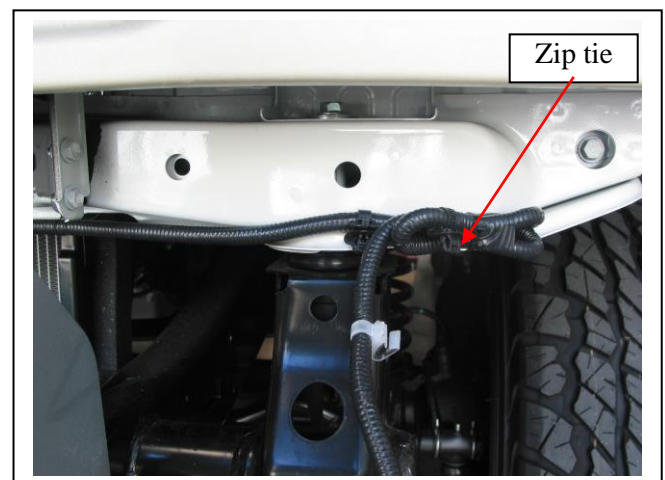

Figure 4 – Passenger side shown
4. Remove fog lamp wiring from rear of bumper cover if fitted (only wiring from bumper cover required). Refit wiring to front of vehicle radiator support panel using cable ties (supplied). Connect wiring to connector under headlamp. **See figures 4, 5 and 6.**